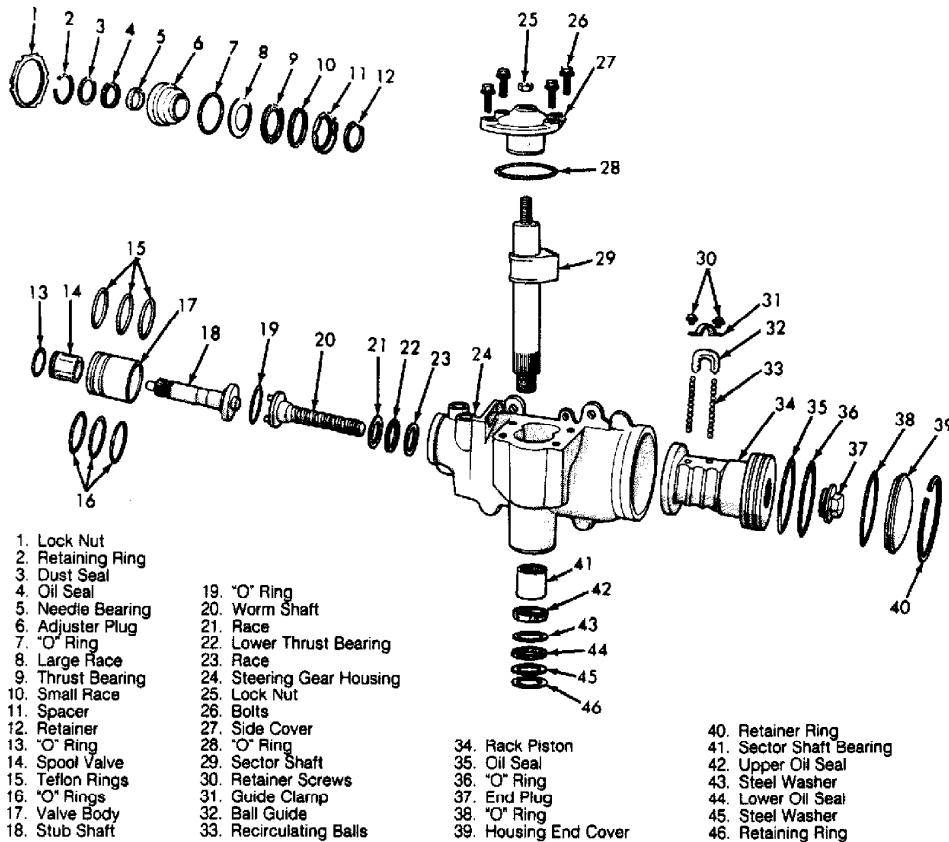

Fig. 5: Exploded View Of Saginaw Rotary Valve Power Steering Gear
1) Cap all openings in gear. Clean gear exterior completely. Mount gear in vise so sector shaft points downward. See Fig. 5. Rotate housing end plug retainer ring until one end of plug is over hole in housing.